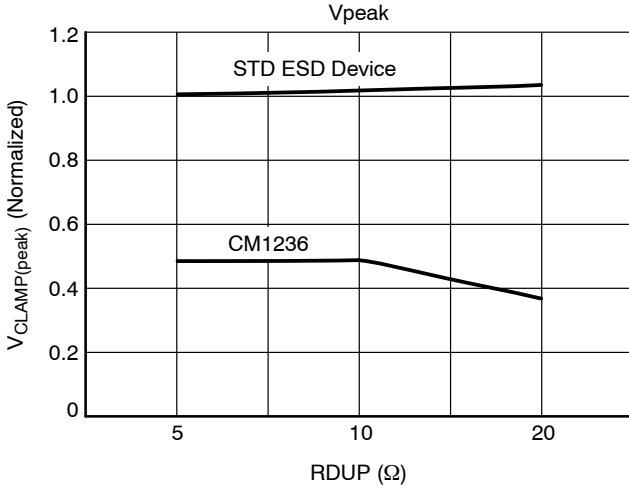
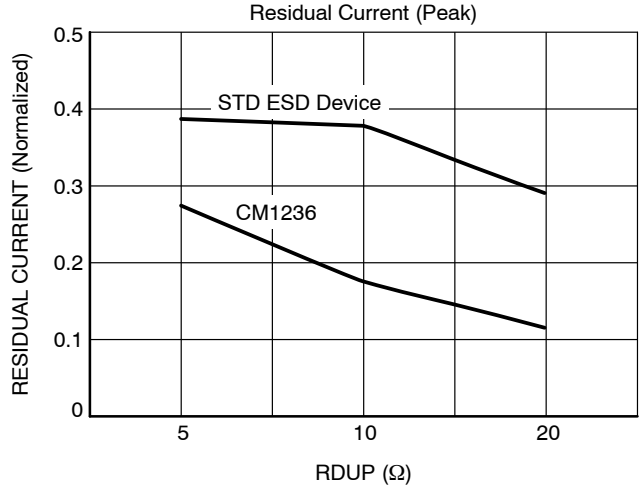
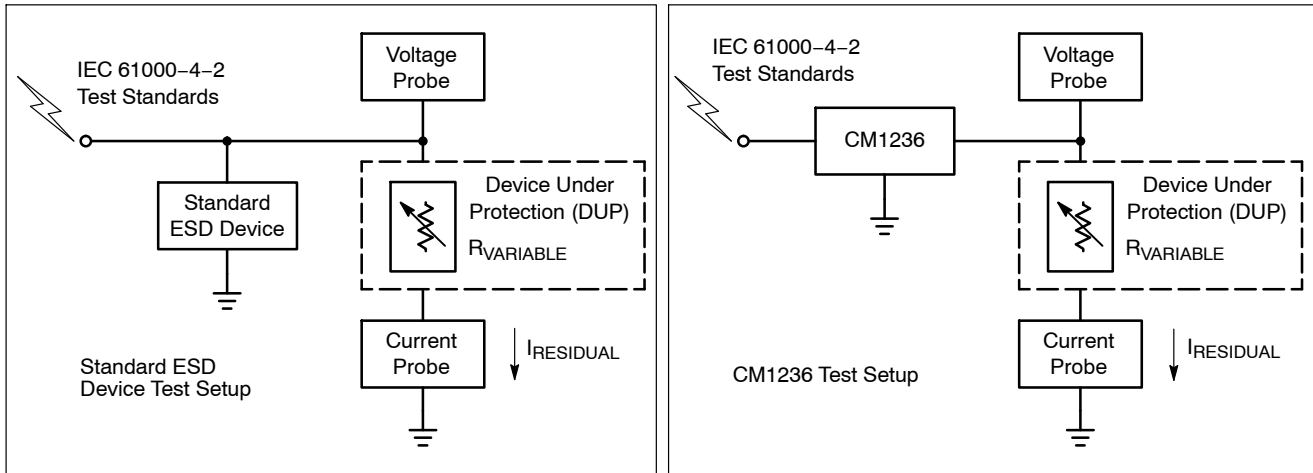

Figure 5. VCLAMP vs. RDUP\* (ASIC) – 8 kV Contract Strike
Figure 6. IRESIDUAL vs. RDUP\* (ASIC) – 8 kV Contract Strike
Figure 7. Test Setups: Standard Device (Left) and CM1236 (Right)
2. Impedance values for deviation from continuous 100  $\Omega$  uncompensated differential microstrip, with typical layout as measured via TDR with 200 ps effective incident risetime. See Figure 7.
Figure 5 shows that the CM1236 (ESD protector) lowers the peak voltage and clamping voltage by 45% across a wide range of loading conditions in comparison to a standard ESD protection device. Figure 6 also indicates that the DUP/ASIC protected by the CM1236 dissipates less energy than a standard ESD protection device. This data was derived using the test setups shown in Figure 7.
\*RDUP is the emulated Dynamic Resistance (load) of the Device Under Protection (DUP). See Figure 7.